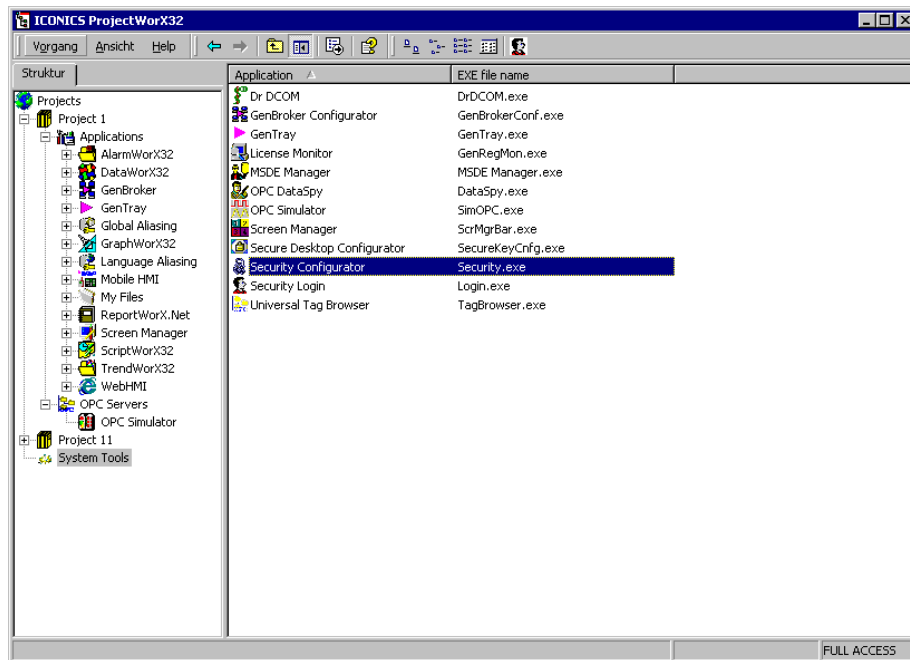

Figure 6.1
1. Now let's start the ICONCIS Security Configuration from the System Tools list in ProjectWorX32, as shown in **Figure 6.1**.